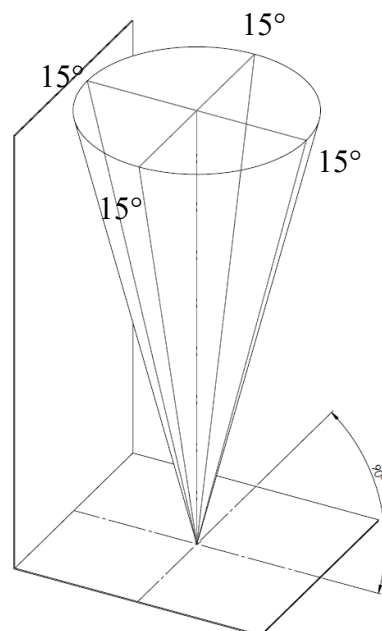

Figure 4: Vertical Incline Cross-Section
- The marking arrow points upward (Fig. 4).